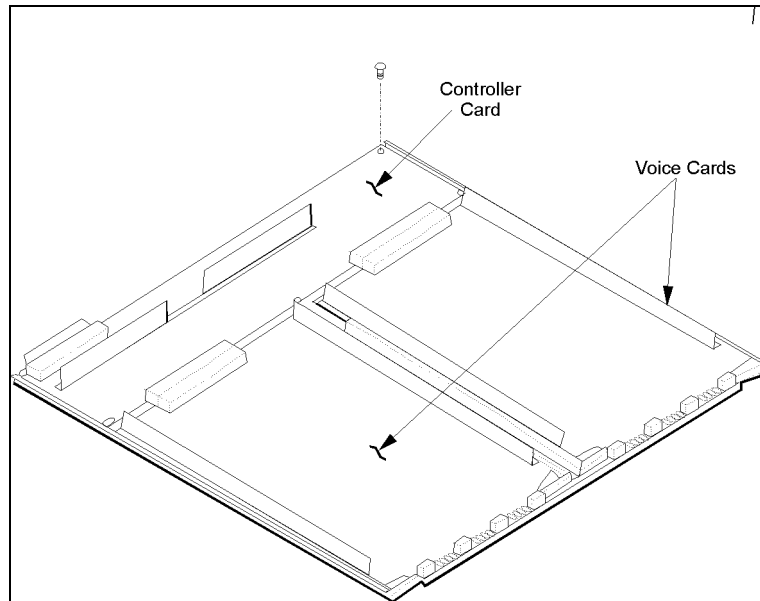

Figure 13-3: Replacing the Controller Card
6. Remove the five screws fastening down the Controller card (see Figure 13-3) and remove the